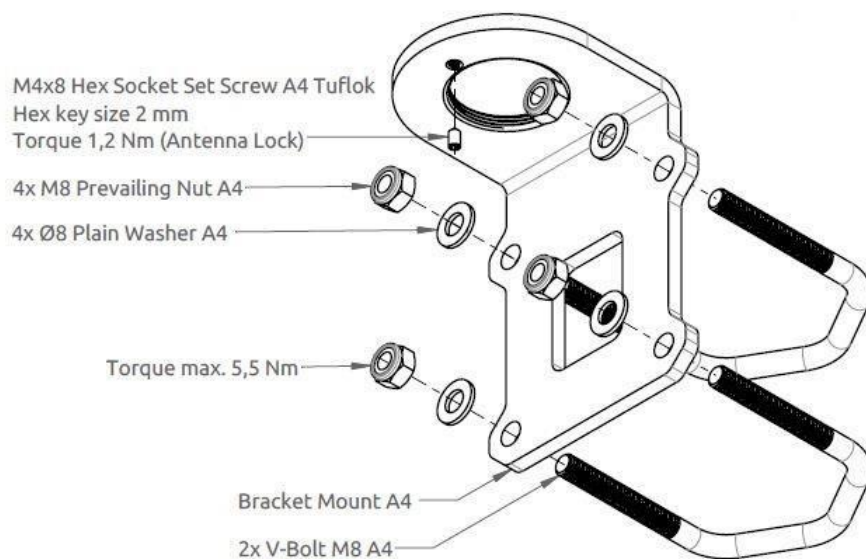

Figure 14: Bracket Mount (1.5" to 2.5" tube), Antenna Unit – horizontal tube mount
1. Fasten the bracket mount to a tube (max. 2.5" tube) by using the two V-bolts and the M8 prevailing nuts, as illustrated in Figure 14 (max torque = 5.5 Nm)
NOTE Always fasten the Bracket Mount, Antenna Unit (1.5" to 2.5" tube) to the tube, before installing the LT-3130 Antenna Unit (the antenna unit and bracket mount are fastened together by the thread lock). Remember to secure the pinot screw after the antenna unit has been fastened. The torques are specified in Figure 14.
The Bracket Mount (1.5" to 2.5" tube), Antenna Unit can support tubes in the interval 1.5" to 2.5". The torques are specified in Figure 14. The bracket mount, V-bolts, and nuts are made of A4 stainless steel.